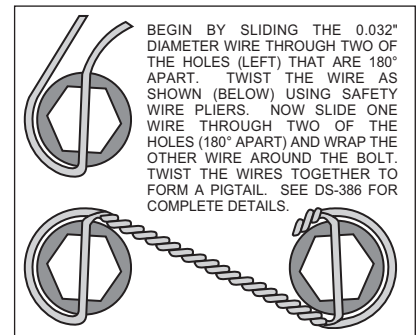

Figure 5. Safety Wire Diagram
- The rotor (3) has two sides. A flat side and an inset side. Bolt hat (2) to flat side of rotor (3) using lock washers (4) and bolts (5). Torque bolts (5) to 180 **in-lb.** (15ft/lbs.). Safety wire bolts (5) using standard 0.032 inch diameter stainless steel safety wire as shown in Figure 5. Please refer to Wilwood's data sheet DS-386 (available at www.wilwood.com/pdf/ds386.pdf) for complete safety wire installation instructions.
- Align the correct hole pattern in the hat (2) with the stud pattern on the axle flange. **NOTE:** Some OEM and after market axles come with stud sizes larger than 0.50" diameter. Verify stud size and have a qualified machine shop drill the hats to the correct size. Slide the hat/rotor assembly (2 and 3) over the wheel studs and against the axle flange face.
- NOTE:** Please reference the caution statement at the beginning of the assembly instructions. WITH THE BLEED SCREWS POINTING UP, mount the caliper (6) over the rotor (3) and onto the caliper mounting bracket (1) using the lock washers (7) and mounting bolts (8). View the rotor through the top opening of the caliper. The rotor should be aligned in the center of the caliper. If not, adjust the caliper by using 0.032 inch shims (9) by placing them between the caliper mounting bracket (1) and the caliper (6). Apply red *Loctite*® 271 to the mounting bolt threads (8), torque to 30 ft-lb. Safety wire the caliper mounting bolts (8).
- Position the Wilwood disc brake pads (10) into the caliper (6) and fasten with cotter pin (11). Steel backing plate side of brake pad should face the caliper pistons.